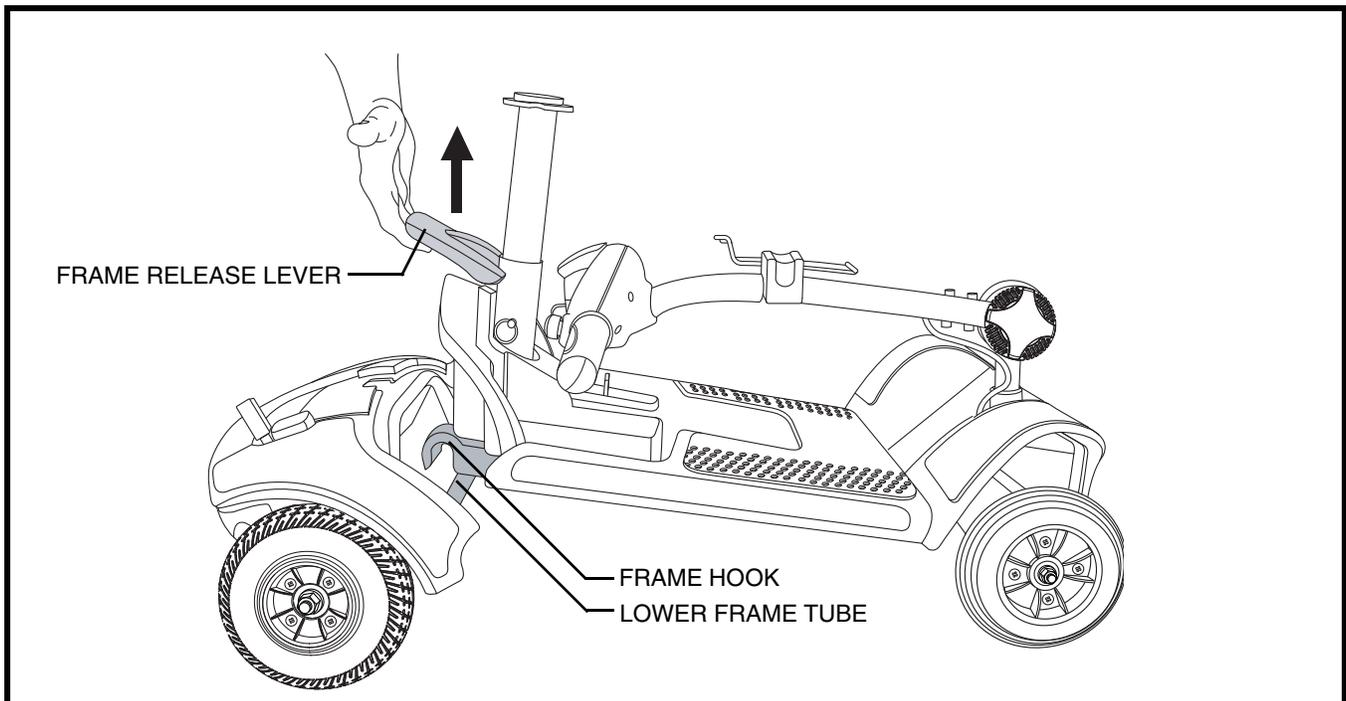

Figure 22. Frame Separation
2. Lift up on the frame release lever until the frame hooks are no longer resting on the lower frame tube. See **figure 22**.
3. Slowly separate the two sections of the Travel Scooter. See **figure 22**.
1. Use the frame release lever to lift the front section as you align the frame hooks of the front section with the lower frame tube of the rear section. See figure 22.